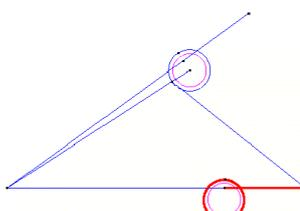

Figure 11. Intersecting lines
- 6 . Choose the option **Geometry->Edit-> Intersection->Line-line** in order to make another intersection between the lower circle and the line segment between point (40, 0) and point (55, 0) (see Figure 11).